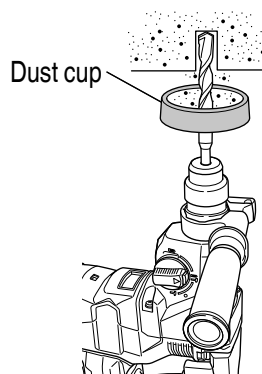

**Fig. 11**
- (1) Turn the grip of the side handle to loosen it and push it in until it comes in contact with the gear cover.
- (2) Adjust the side handle to the angle that allows the easiest use, then turn the side handle's grip firmly to lock it place.
3. Mounting the drill bit (**Fig. 11, Fig. 12**)
- (1) Clean the shank portion of the drill bit.
- (2) Insert the drill bit in a twisting manner into the tool holder until it latches itself. (**Fig. 11**)